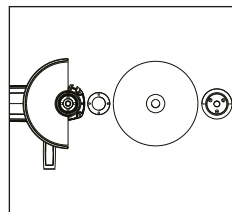

Fig 3
1. Mount the inner flange onto the spindle, fit the wheel/disk onto the inner flange, and screw the outer flange onto the spindle (Fig 3).